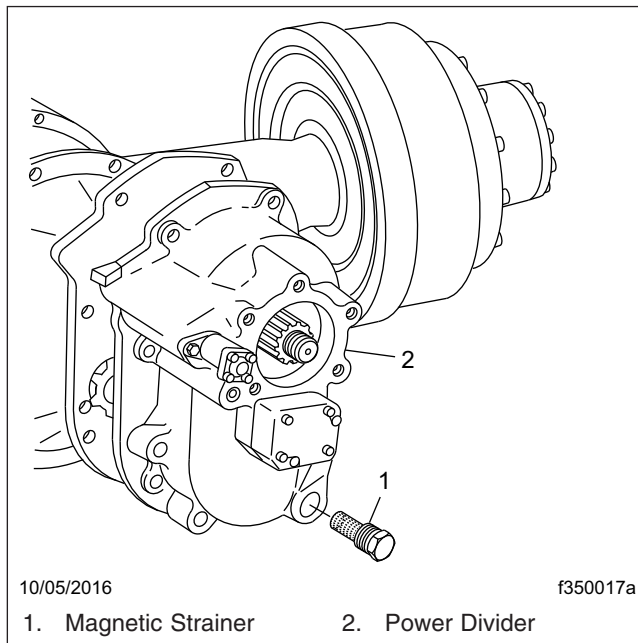

Fig. 6, Dana Spicer Tandem-Drive Axle Magnetic Strainer
- 4.1 Remove the magnetic strainer from the power divider cover. See Fig. 6.